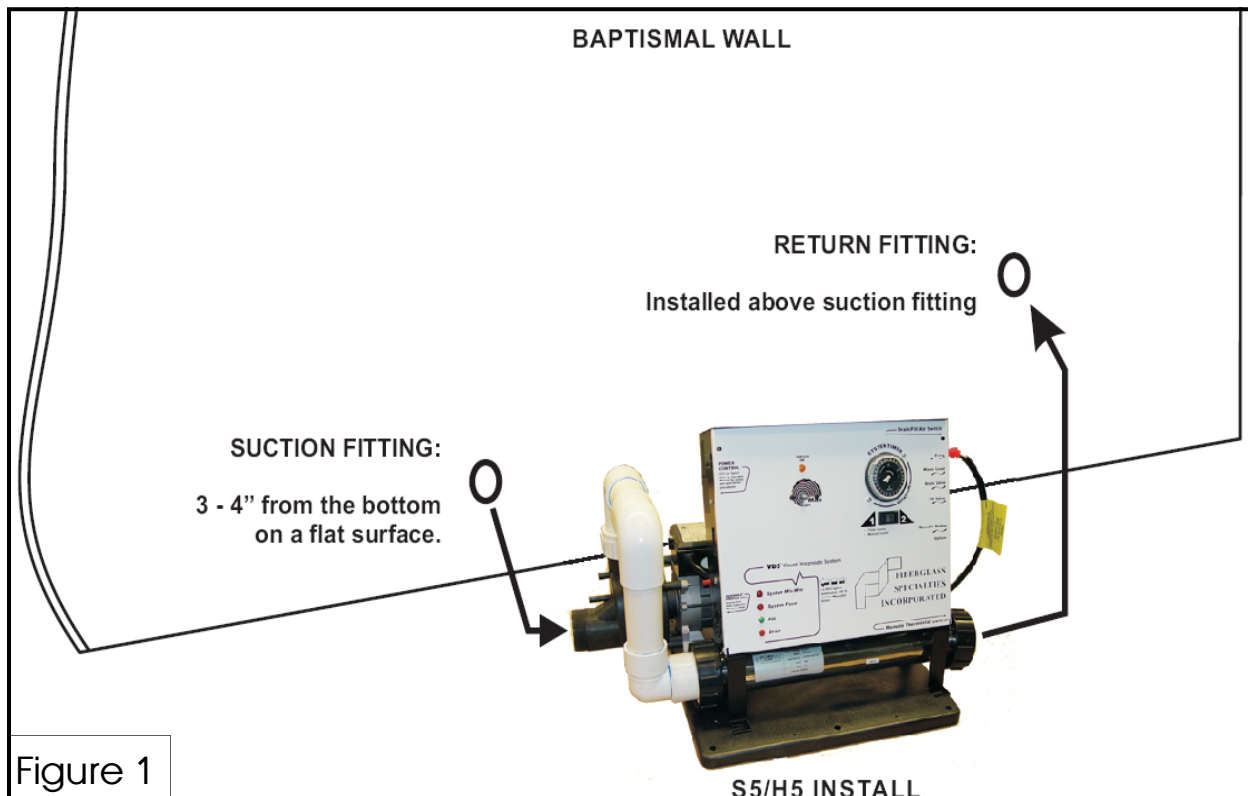

Figure 1
3. With the heater in its final position, in line and level with the suction fitting location, determine the exact position of the heater by preassembling the plumbing headers and circuits as shown in **Figure 1, Page 7**. **Be sure to align the fittings and support the heater in such a way that the plumbing is not put into tension with the baptistry wall. Such tension can cause unnecessary leaks and noise due to vibration.**